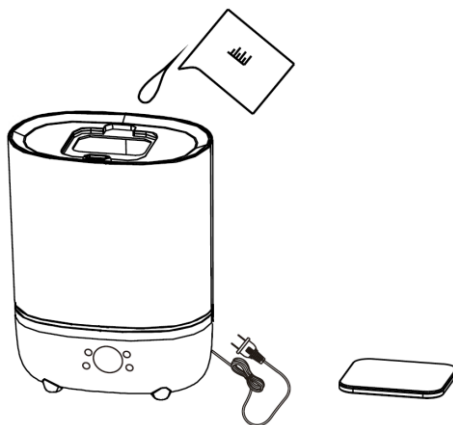

Fig. 3
- 2. Remove the water filling cap and pour the water inside the water tank (fig. 3)